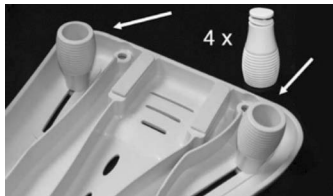

fig.2
1. Reverse the board and loosen the 4 supports, which hold the cleats in place. Make sure the cleats are free to move and that the non-slip white pads are facing the outside of the board (see fig. 2). Not suitable for straight sided baths